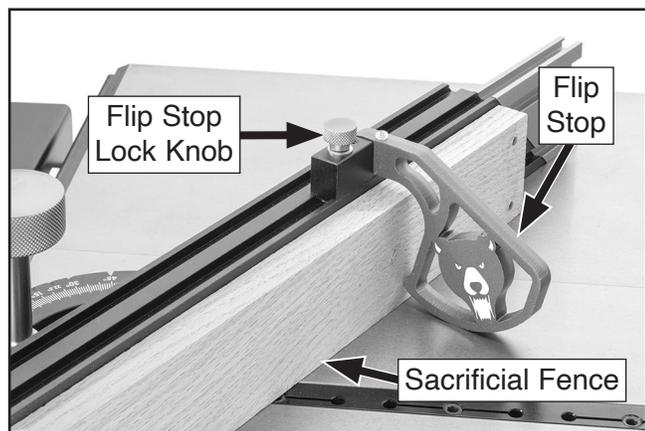

Figure 13. Flip stop installed in front fence T-slot with sacrificial fence.
1. Loosen flip stop lock knob (see **Figure 13**) enough so you can slide T-slot nut into desired T-slot on top of fence.
- Front T-slot (see **Figure 13**) will allow flip stop to be used on fence extension or with sacrificial fence, but requires workpiece to be at least 2" thick .